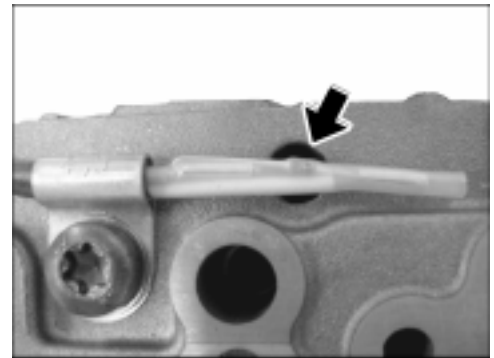

*Figure 6*
- 11 Slide the shrink-fit sleeves over the crimped contacts and shrink the sleeves with a hot-air blower ⇒ *Figure 6*.